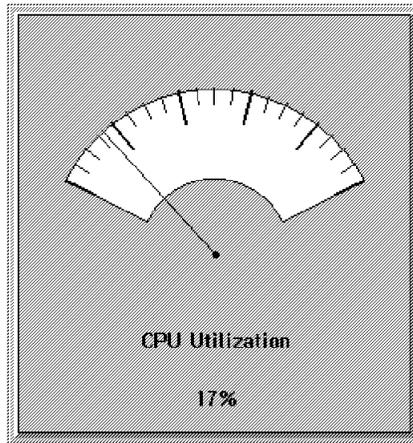

Figure 99. CPU Utilization Monitor
3. Select **CPU Utilization** and click on **Accept**. Figure 99 on page 286 will appear.